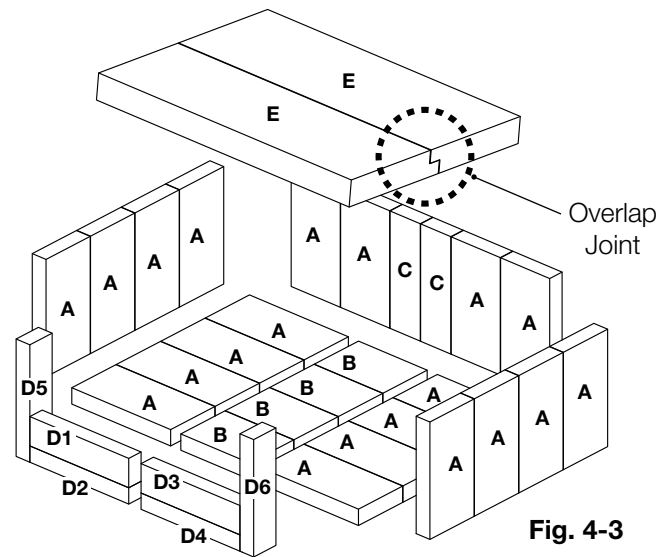

Fig. 4-3
With the appliance and chimney installation completed, move the bricks into place as illustrated below (Fig. 4-3).
- Install six “D” bricks along the front of the firebox. Ensure to follow the numbering sequence in Fig. 4-3 (i.e. D1, D2, D3, etc).
Place “C” bricks in the centre, with two “A” bricks on either side as illustrated (Fig. 4-3).